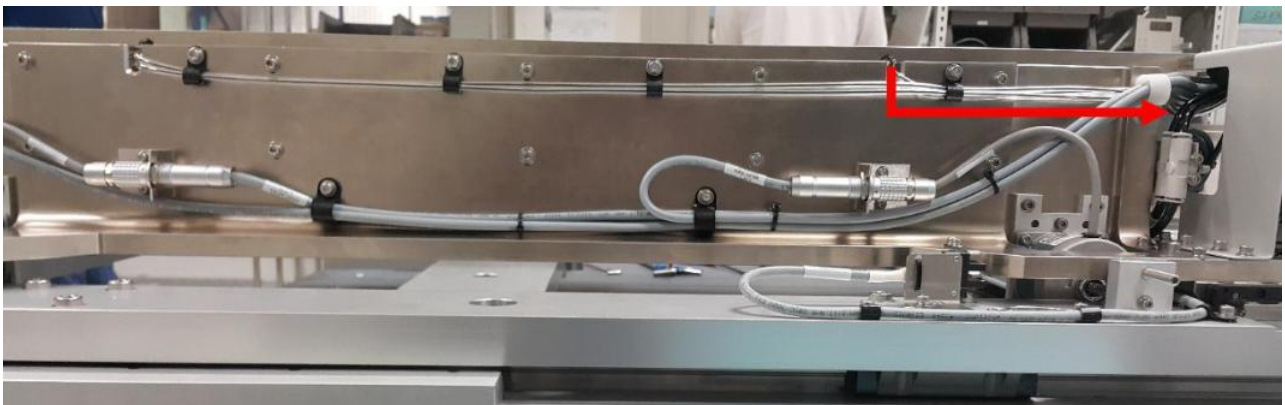
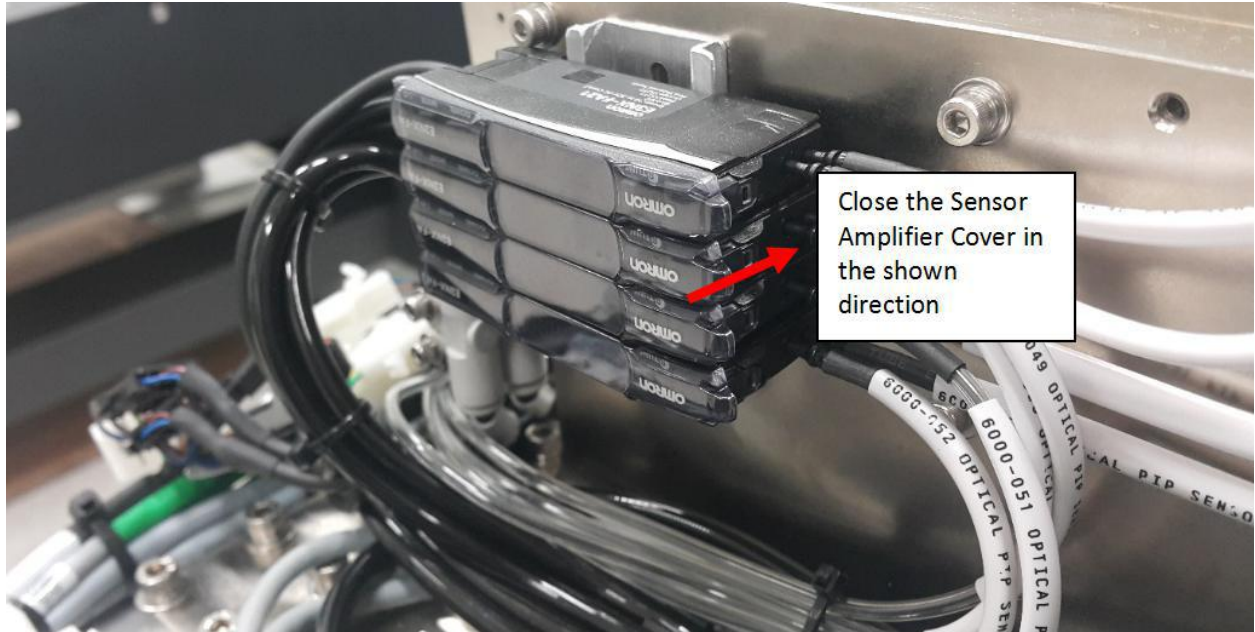

Figure 30 Sensor 2 Emitter Cable Routing
Figure 35 Sensor Amplifier Cover
9. Route Sensor 2 Emitter Cable by refer Figure 30 to Figure 35.